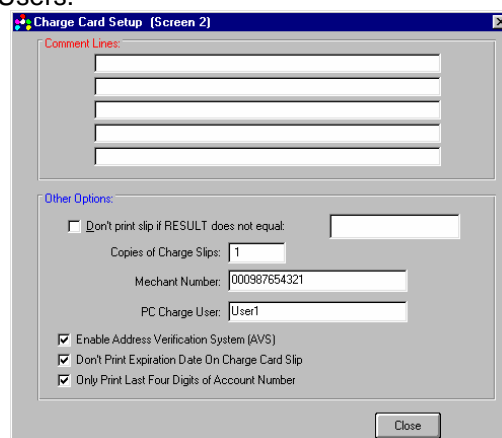

Figure 5
- If you are using a single-user version of PC Charge, you must use the default user name "User1" (see Figure 5). If you have purchased additional users from Go Software Inc., the PC Charge User in Store Manager's PC Charge Setup must match a user name as assigned in PC Charge's Setup|Users.